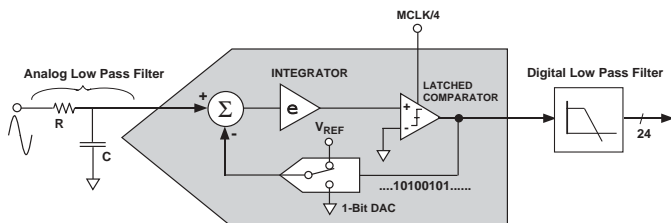

Figure 17— First Order Sigma-Delta (Σ - Δ) ADC
The analog-to-digital conversion in the ADE7753 is carried out using two second order sigma-delta ADCs. For simplicity reason, the block diagram in Figure 17 shows a first order sigma-delta ADC. The converter is made up of two parts: the sigma-delta modulator and the digital low pass filter.
Figure 17 also shows an analog low pass filter (RC) on the input to the modulator. This filter is present to prevent aliasing. Aliasing is an artifact of all sampled systems. Basically it means that frequency components in the input signal to the ADC which are higher than half the sampling rate of the ADC will appear in the sampled signal at a